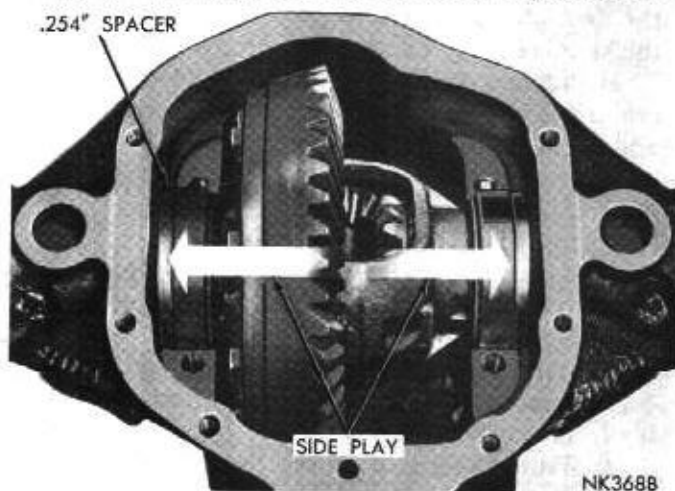
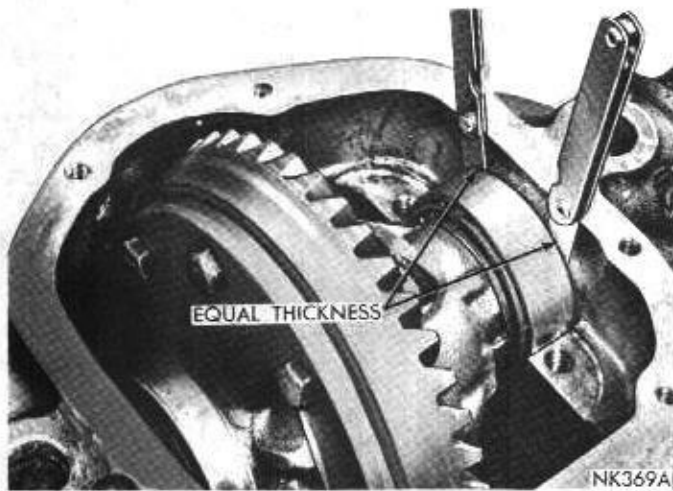
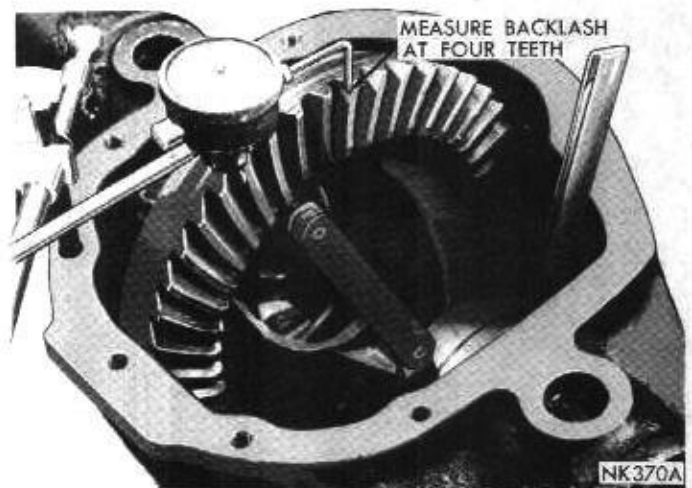

Fig. 22—Temporarily Install Thinnest Spacer
Fig. 23—Feeler Gauges Measuring Thickness
Fig. 24—Determining Minimum Backlash
(1) With drive pinion and bearings installed and bearing preload set, install differential case and ring gear assembly, and cups. Insert a .254 inch preload adjusting spacer on ring gear side (Fig. 22) of axle housing. Do not install bearing caps.
(2) Install a preload spacer on right side of housing that will fit snugly but still leave a slight amount of end play.
(3) To measure, move differential to the left side or ring gear side of rear axle housing. Using two sets of feeler gauges, insert feeler gauges between the spacer and the right side of the axle housing above the center line of the case (Fig. 23). Insert the same thickness of feeler gauges between the spacer and the axle housing below center line of case. Increase thickness of gauges until heavy drag is felt.
(4) Rotate differential and ring gear assembly several times in both directions to seat bearings and cups and re-check feeler gauge drag.
(5) Install a spacer totaling the combined thickness of spacer and feeler gauge. This will provide zero end play.
(6) Measure drive gear backlash at 4 positions at approximately 90 degrees intervals (Fig. 24). Refer to "Differential Preload Spacer Chart" for selection of proper spacers to provide .004" to .007" backlash.
(7) Remove differential case and ring gear assembly from axle housing.
(8) With proper spacers selected for left and right sides of assembly as specified by "Differential Preload Spacer Chart", attach spreader Tool C-3721 with